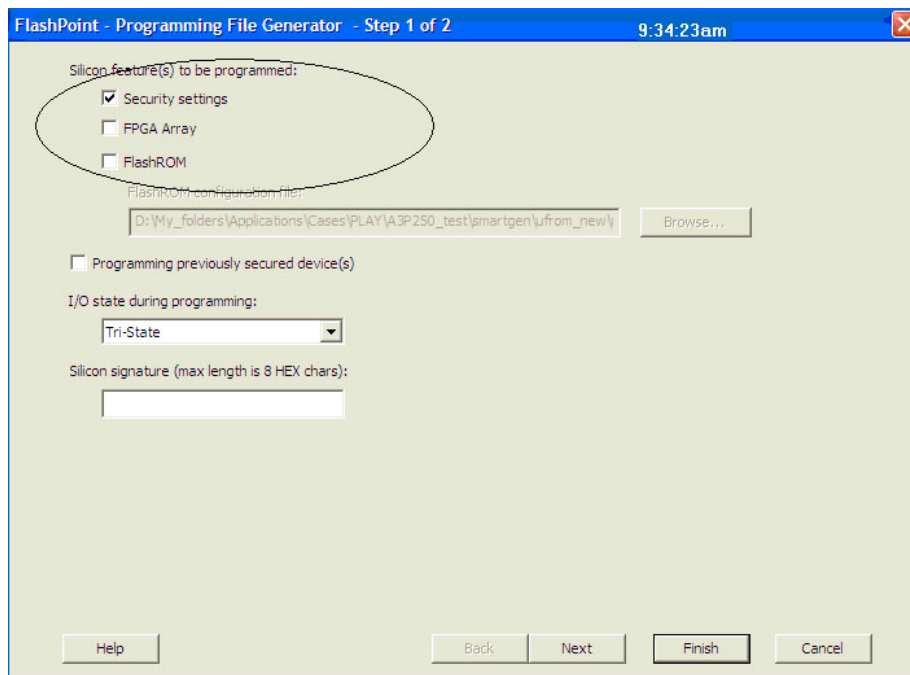
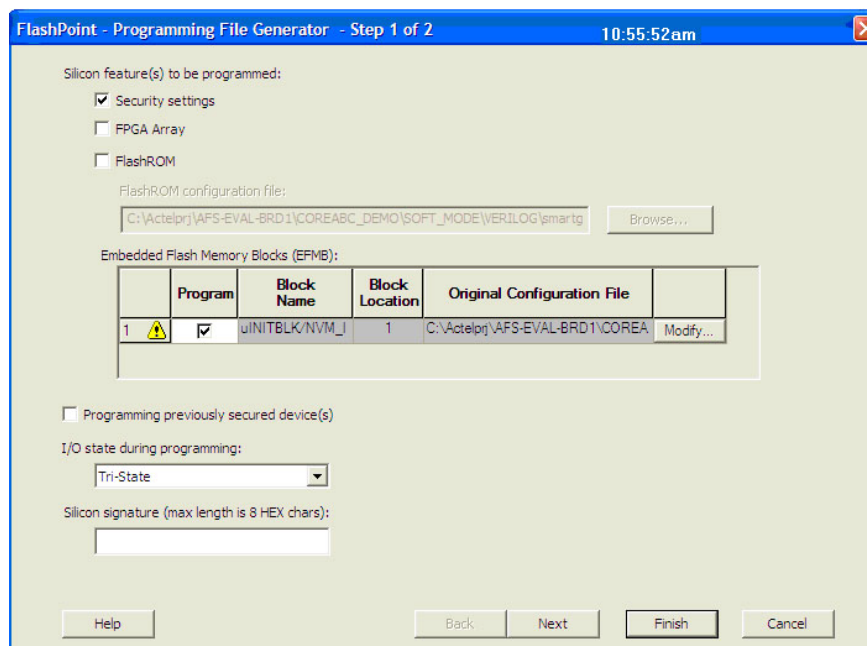

Figure 11-14 • Programming IGLOO and ProASIC3 Security Settings Only
Figure 11-15 • Programming Fusion Security Settings Only
1. Select only the **Security settings** option, as indicated in Figure 11-14 and Figure 11-15 on page 264. Click **Next**.